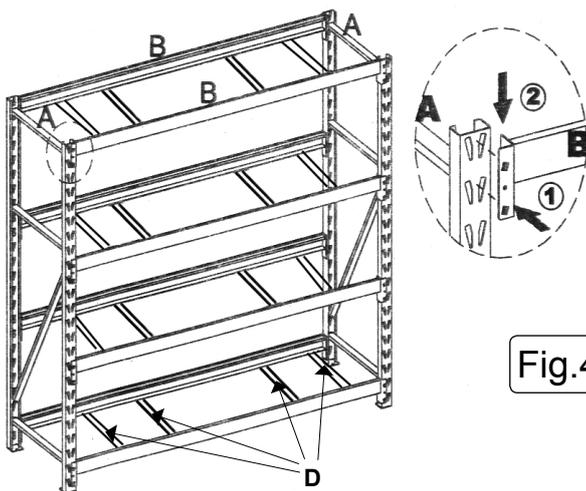

Fig.4
**4.5 See Fig.4.** Assemble the remaining two cross beams to the top of the frame as shown below ensuring that the tabs are fully engaged into the end frames.